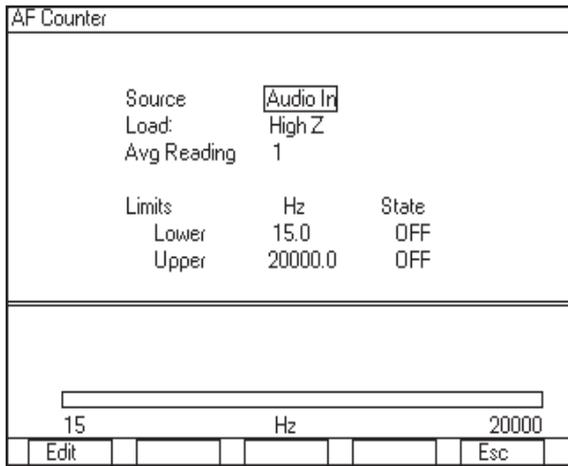

Figure 10 - AF Counter screen
17. You should now see the screen shown in Figure 10.